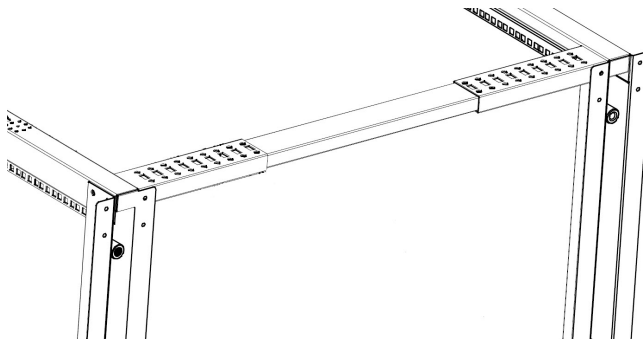

Figure 5
- Slide a second **Center Section Assembly** between the other side of the **Base Brackets**. (Figure 5)